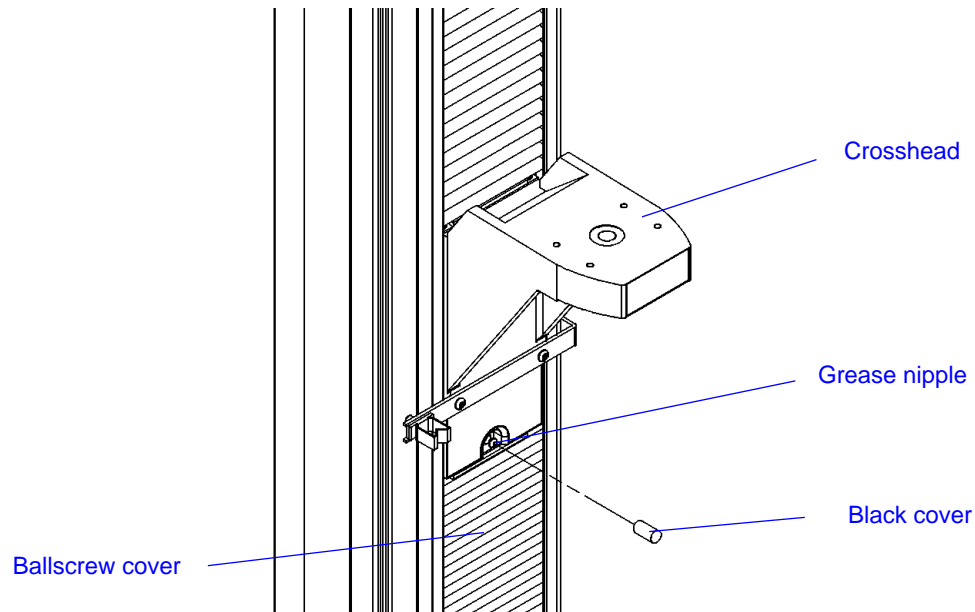

Figure 5-2. Lubricating the Ballnut - 3345 and 3345 Extra Height Frames
1. Turn the power switch to the Off (O) position and disconnect the power cable from the main power source. Ensure that the **POWER** indicator light does not illuminate.
2. Remove the black cover on the front of the crosshead to expose the grease nipple. Refer to Figure 5-2 on page 5-9 to locate the grease nipple on the crosshead.
3. Use a grease gun to apply the grease into the grease nipple as shown in Figure 5-2 on page 5-9.